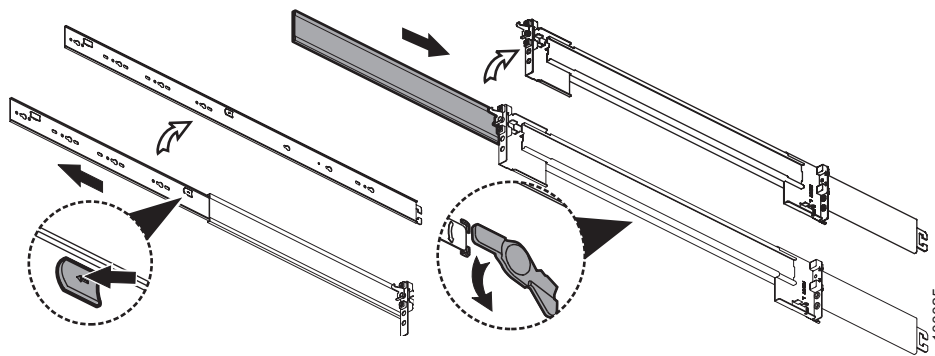

Figure 19. Detaching the inner rail section
3. Detach the inner section of one three-part rail, as shown in Figure 19.